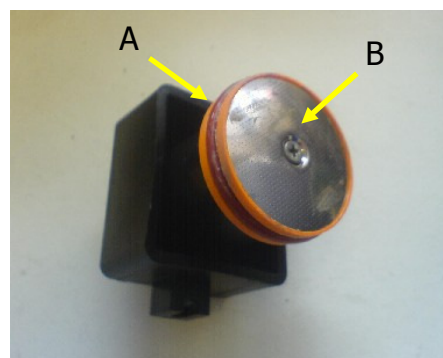

Fig. 3
- 4) Gently pull brewer halves apart at the top to release the upper piston (Fig. 3) remove O-ring (A) and filter plate by removing screw (B).